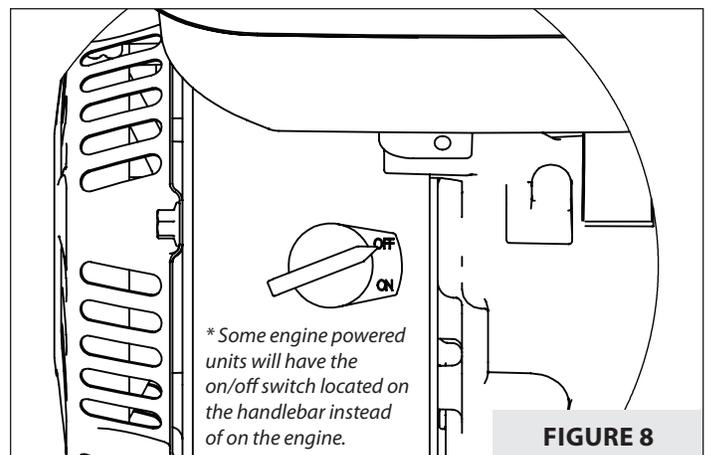

FIGURE 8
2. Turn the On/Off switch to the **OFF** position. *(Some engine powered units will have the on/off switch located on the handlebar instead of on the engine.)* **SEE FIGURE 8.**